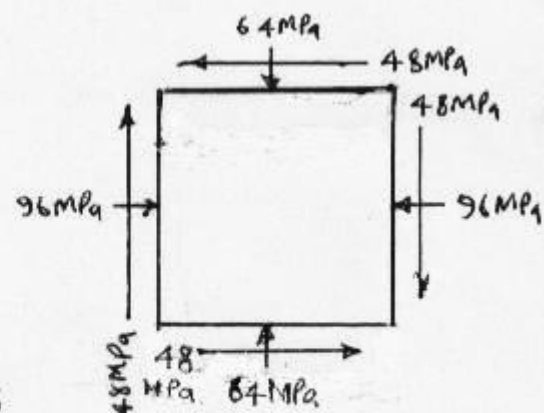

fig.12 Q5 (c)
- (c) A point in two dimensional stressed body is shown in **fig. 12**. Determine